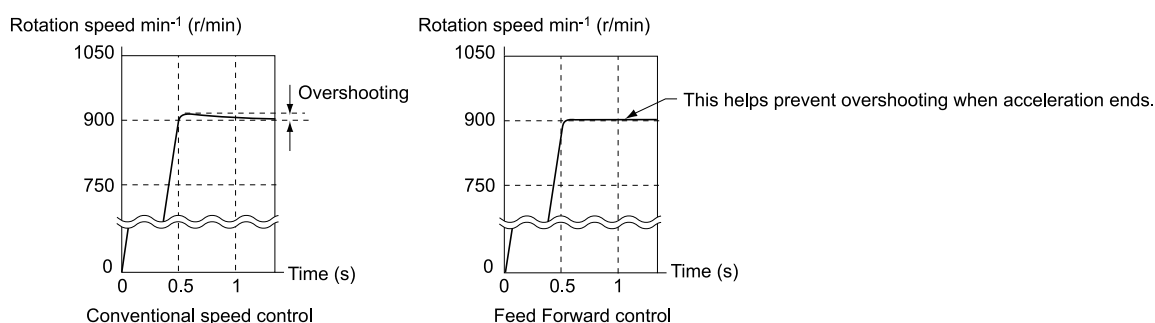
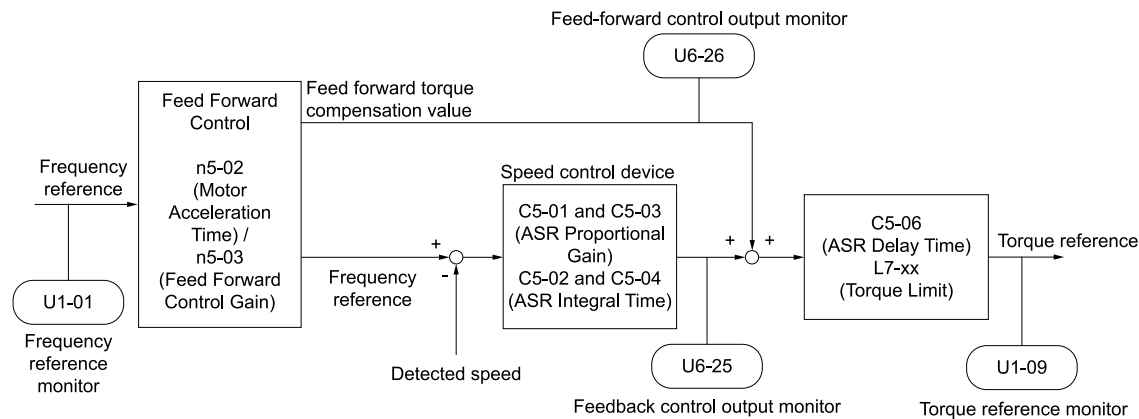

Figure 11.97 Suppress Overshooting with Feed Forward Control
Figure 11.98 Setting Feed Forward Control
Increasing the values set in $C5-01$ and $C5-03$ [ASR Proportional Gain] is effective in applying feed forward control to machines with low rigidity for which hunting and vibration are likely to occur or to machines with significant inertia. Applying this function while using CLV control also helps prevent overshooting. Refer to Figure 11.97. Refer to Figure 11.98 for more information about parameters related to Feed Forward control.
- If the inertia tuning process cannot be performed, refer to Figure 11.98 and set the parameters related to Feed Forward control individually.